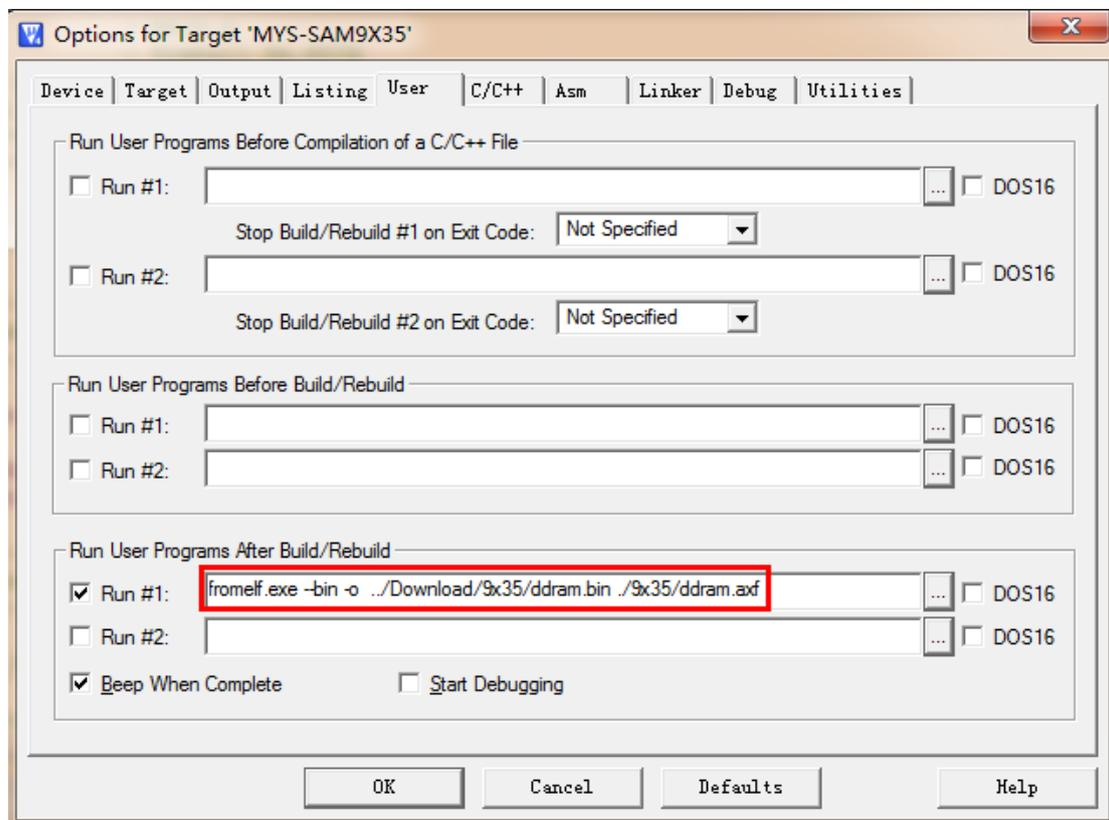

Figure 3-5
(5) User configuration is shown in figure 3-5: